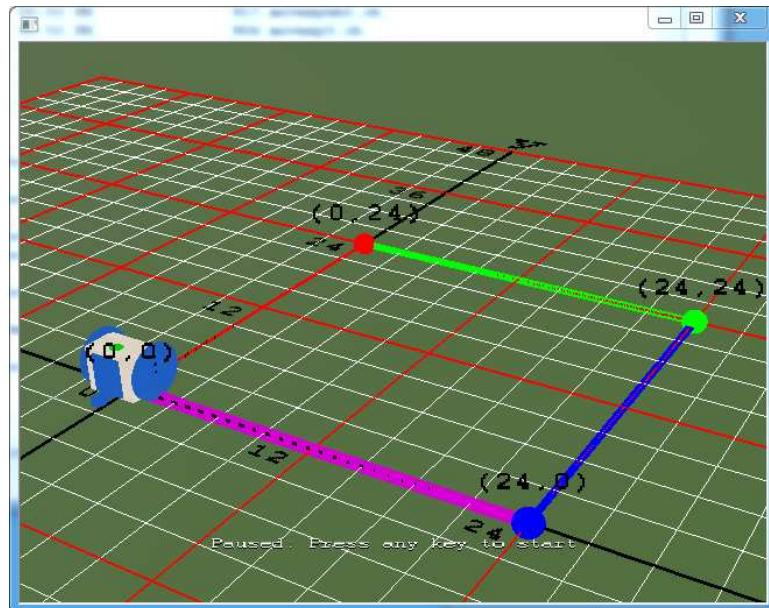

Figure B.22: The RoboSim scene with an obstacle course by the program `pointlinetext2.ch`
1. Write a program `pointlinetext2.ch`, based on Program B.8, draw an obstacle course as shown in Figure B.22. The size for points in the obstacle course is 2. The line widths for the red, green, blue, and purple color are 1, 2, 3, and 4, respectively.
3. Write a program `obstaclecourse2.ch` to drive a robot following the obstacle course as shown in Figure B.22.